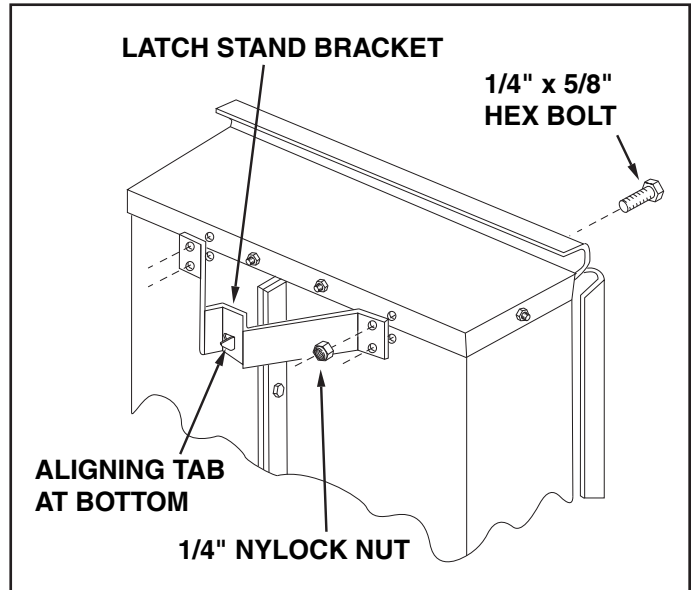

FIGURE 7
11. Turn the latch stand bracket so that the aligning tab is at the rear (bottom) of the bracket. Assemble the latch stand bracket to the cart using four 1/4" x 5/8" hex bolts and 1/4" nylock nuts. **TIGHTEN.** See figure 7.